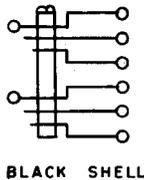

Fig. 6—380A Plug
2.06 380A: The 380A (Fig. 6) is a twin, 3-conductor plug that is used with the No. 50 jack in the 176 jack mountings in the No. 1 Teletype-writer Switchboard Service Observing Desk. The 380A plug replaces the D-157427 plug.